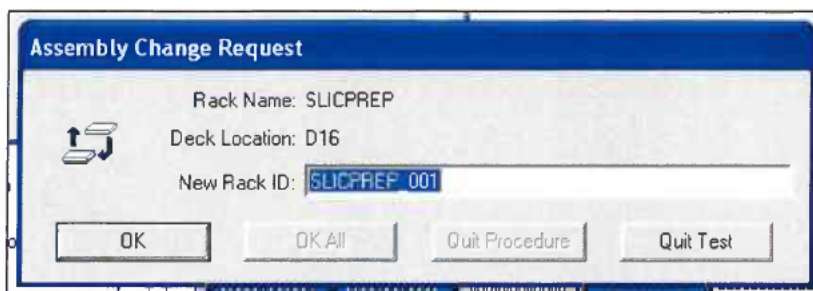

Figure 2. Scan batch ID request
25. The following message will appear (Figure 2 below):